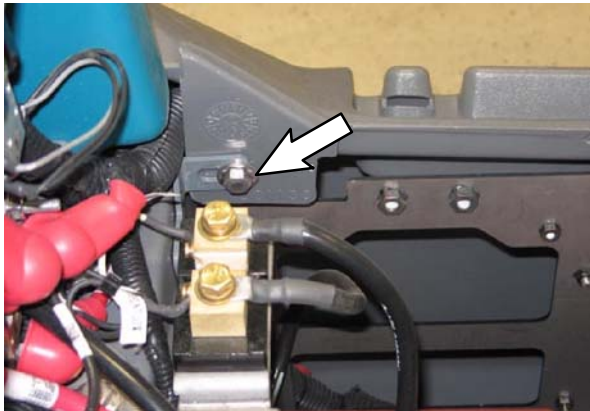

FIG. 1
1. Remove the SEMS M8 hex screw securing the side cover to the machine. Remove the side cover from the machine. Set the SEMS M8 hex screw aside. (Fig. 1)